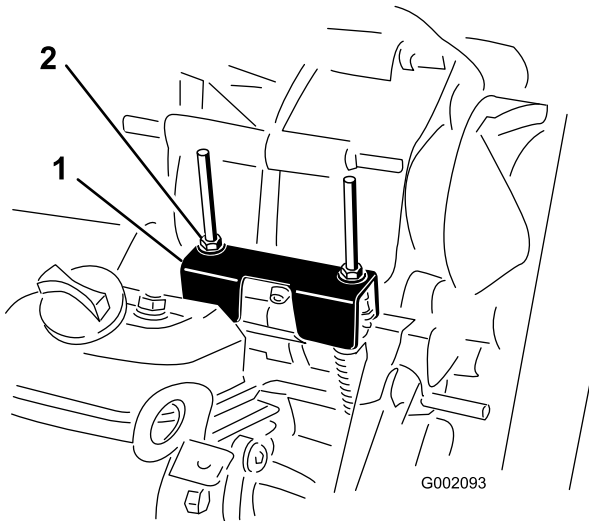

Figure 59
When performing routine maintenance and/or engine diagnostics, the transaxle must be shifted into neutral (Figure 59). The machine has a neutral position on the shift lever, which controls the neutral in the transaxle. The following steps should be taken to make sure that the neutral-shift lever operates the transaxle neutral correctly:
2. Ensure that the neutral bracket is in the NEUTRAL position (level to the cable mounting bracket located below the shift bracket) by turning the driven clutch (Figure 59).
3. Tighten 1 locknut (Figure 59) to achieve a gap of 0.76-1.52 mm (0.03-0.06 inch).